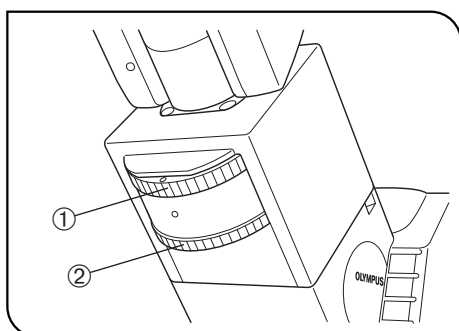

Fig. 56
4 Centering the Phase Contrast Ring Slit (Figs. 56 to 58)
2. When the U-BI90CT binocular observation tube is used, rotate the CT turret ① to position "CT". When the observation tube in use is other than the U-BI90CT, remove an eyepiece and attach the U-CT30 centering telescope in place. (Fig. 56)
4. Rotate the focus ring ② (or the knurled section when the U-CT30 is used) to focus on the ring slit ③ and the phase plate ④ of the objective. (Figs. 56 & 57)
5. Using the optical element centering knobs ⑥, turn the two centering screws ⑤ of the phase contrast slider so that the ring slit image overlaps with the phase plate of the objective.